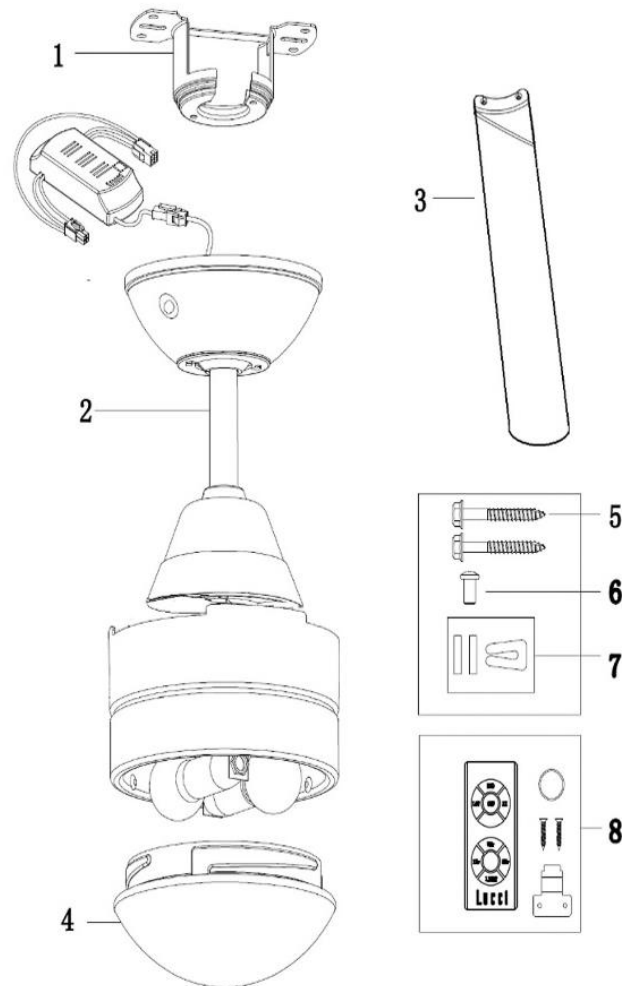

Fig. 1
- Unpack the fan and carefully identify the parts. Please refer to Fig 1.